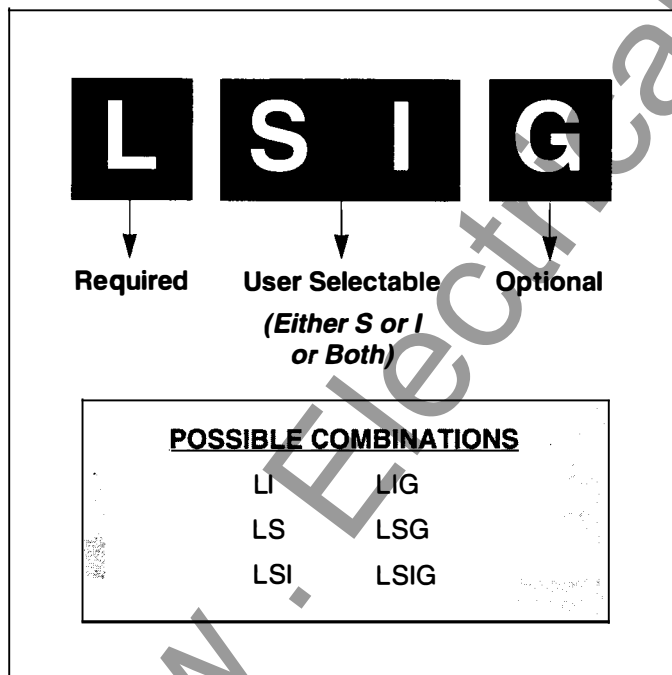

Figure 3-4 Overcurrent Protective Function Combinations
- ① No ground fault alarm (A) provided
② Refer to para. 3-2.3 and Figure 3-4 for details
③ Setting Tolerance $\pm 5\%$
④ Setting Tolerance $+0-30\%$
⑤ Setting Tolerance $+10-40\%$
- ⑥ Setting Tolerance (See time-current curves)
⑦ Setting Tolerance $\pm 10\%$
⑧ Setting Tolerance $\pm 20\%$
⑨ Only available with LSIA
⑩ I_s (L & N-Frame), I_n (R-Frame, SPB, DSII/DSLII)
① No ground fault alarm (A) provided
③ Setting Tolerance $\pm 5\%$ ④ Setting Tolerance $+0-30\%$ ⑤ Setting Tolerance $+10-40\%$
⑥ Setting Tolerance (See time-current curves)
⑦ Setting Tolerance $\pm 10\%$ ⑧ Setting Tolerance $\pm 20\%$
All Digitrip OPTIM Trip Units are available in six overcurrent protective function combinations of long, short, instantaneous and ground (Figure 3-4). When the protection functions are combined with slope adjustments I^4t , I^2t or Flat, the Digitrip OPTIM Trip Unit provides the following ten programmable curve shaping possibilities:
All Digitrip OPTIM Trip Units provide programmable long delay protection consisting of (Tables 3.2 and 3.3 and Figure 3-4):
Short delay protection is selectable with all Digitrip OPTIM Trip Units. It can be selected in combination with instantaneous protection or without instantaneous protection. Either both, one or the other (short or instantaneous) must always be provided (Tables 3.2 and 3.3 and Figure 3-4). Short delay protection can consist of the following:
Instantaneous protection is selectable with all Digitrip OPTIM Trip Units. It can be selected in combination with short delay protection or without short delay protection. One or the other (instantaneous or short) must always be selected (Tables 3.2 and 3.3 and Figure 3-4). Instantaneous protection is provided via: